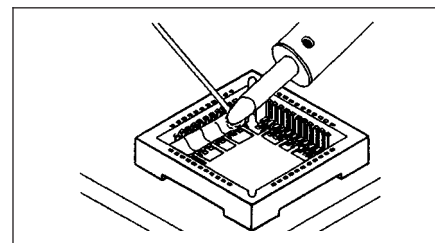

Figure 1 Bridge Fill
5. Using soldering handpiece, melt solder to form a solder bridge joining all component leads. (See Figure 1.)